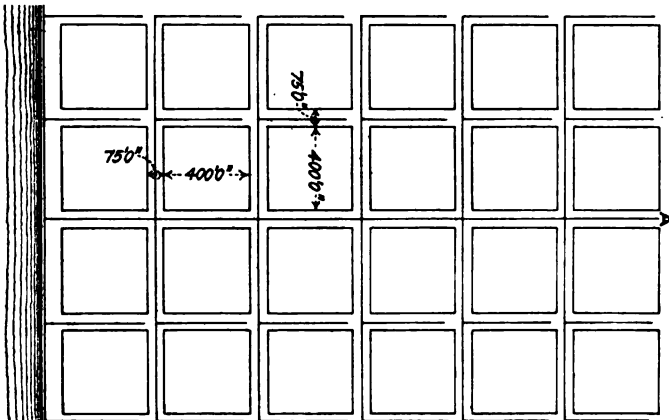

FIG. 8.
1. Design the sewers as shown on the accompanying sketch (Fig. 8), figuring the sizes, locating man-holes, catch-basins, etc. The river bank is at M. H. W. and the point A at 15 ft. above M. H. W. with uniform grade toward river. The sewer is of the separate type and the water consumption is to be figured at 100 gal. per capita, with 300 residents on each block. No provision for growth of city.